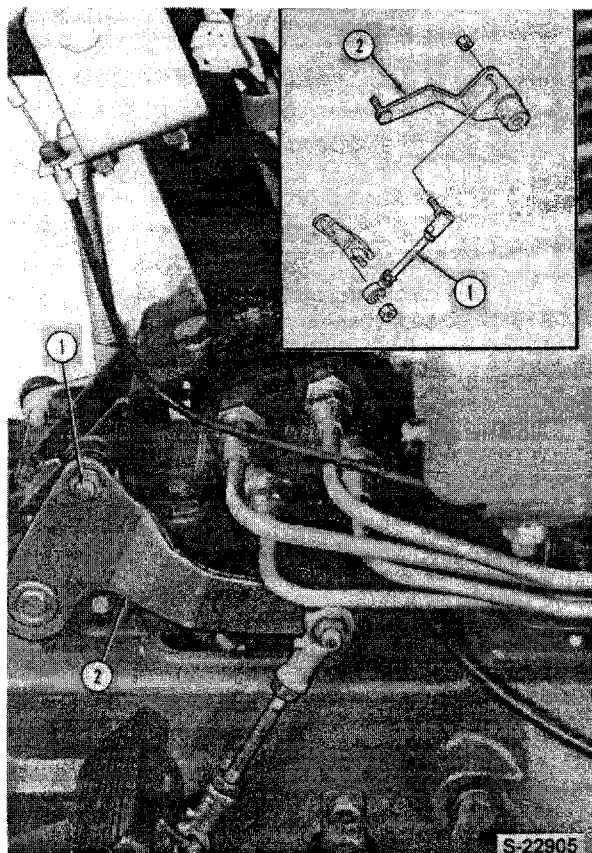

Figure 88
2. Disconnect the HST control rod (1), Figure 88.